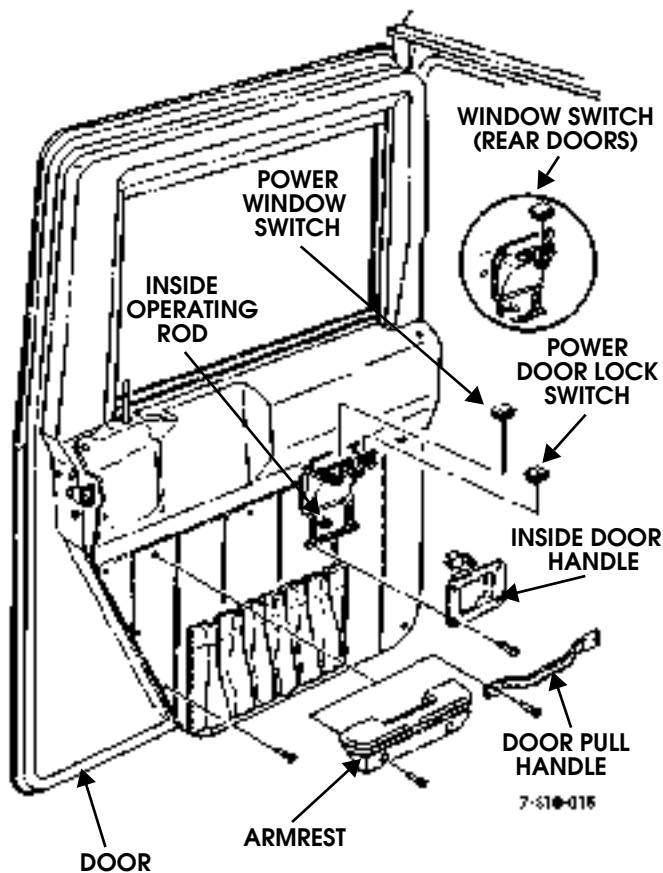

Figure 10-61: Door Trim Breakdown
3. Remove screws and door pull handle or armrest from door trim panel (Figure 10-61).
9. Secure door trim panel to door with screw/washer assemblies (Figure 10-61).